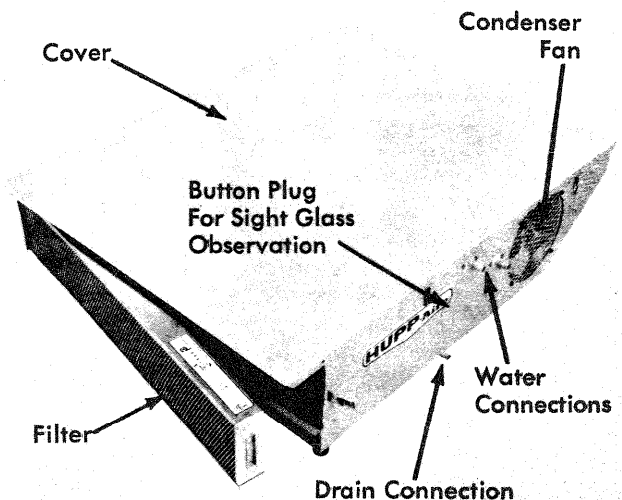

FIGURE 12
7. Attach second Charge-A-Can, open Charge-A-Can valve and suction gage valve. Empty can. (Repeat 6 and 7 until four cans have been emptied.) Sight glass should now be clear and free of bubbles. (figs. 12 and 13).
A sight glass is located behind the button plug (fig. 12) on the left side of the unit. By removing this plug one can observe the freon condition of the system. When the unit is running and bubbles are present, flowing past the glass window, it indicates a low charge condition. If the sight glass is clear, sufficient freon is in the system. Also if the glass appears green, there is no moisture present, however, if it appears yellow, there is moisture in the system which should be discharged by changing the receiver-drier.
4.3.17 Filter (figs. 12 and 13)